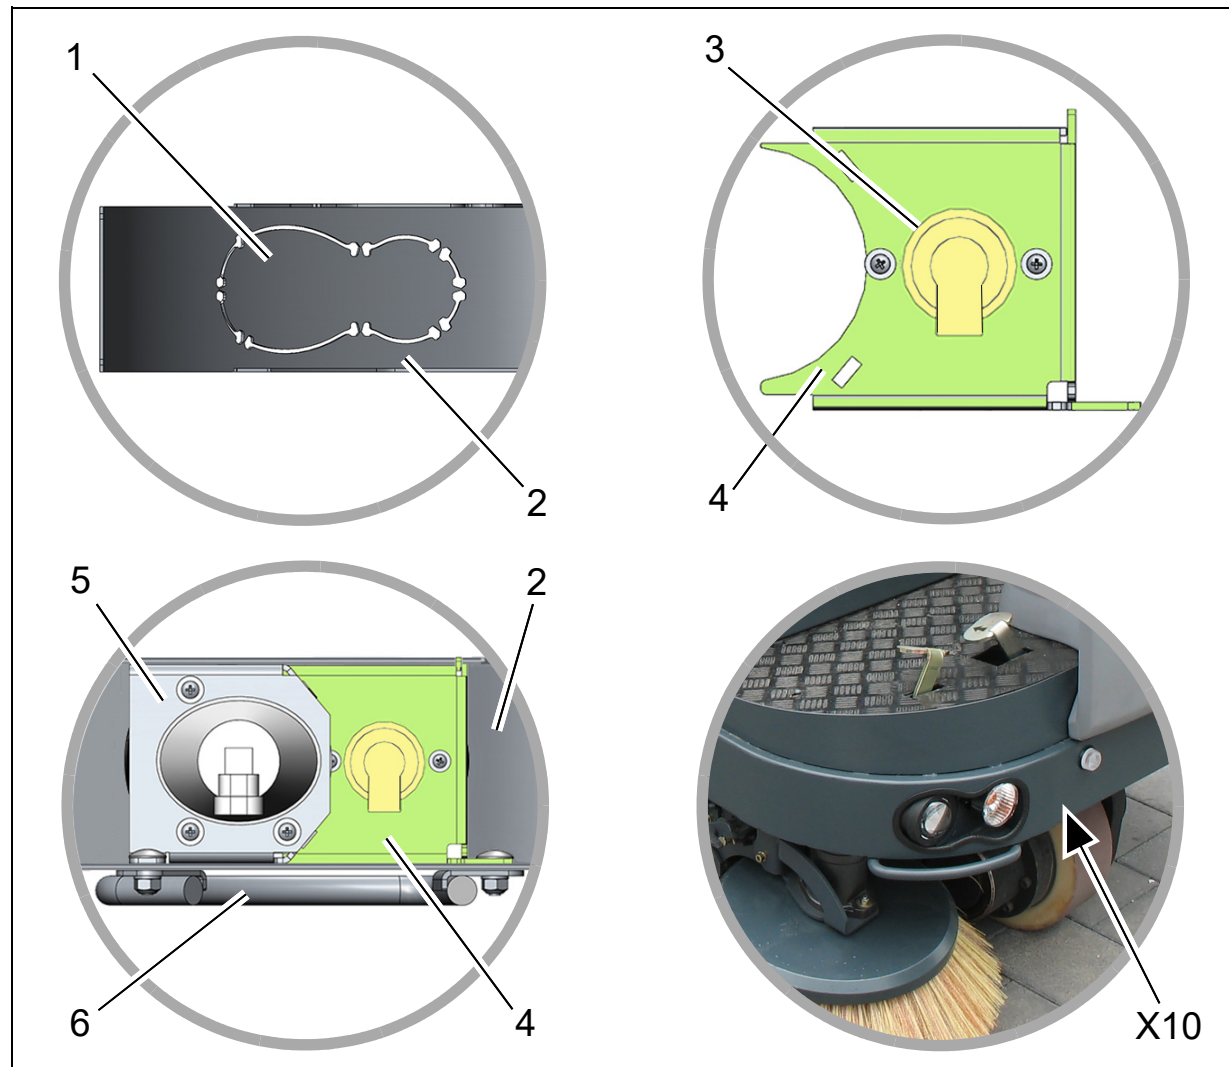

Abb.2
3. Remove the metal sheets (Fig. 2/1) from the chassis (Fig. 2/2) and install the edge protection.
4. Mount the turn signal (Fig. 2/3) on the turn signal holder (Fig. 2/4) using Ejet screws and washers.
5. Insert the indicator holder (Fig. 2/4) on the chassis (Fig. 2/2) from the inside.
6. Insert the work light (Fig. 2/5) into the indicator holder, fasten it to the chassis with the protective bracket (Fig. 2/6) and fastening material (screws M8x20mm, washers 8.4 and nuts M8).